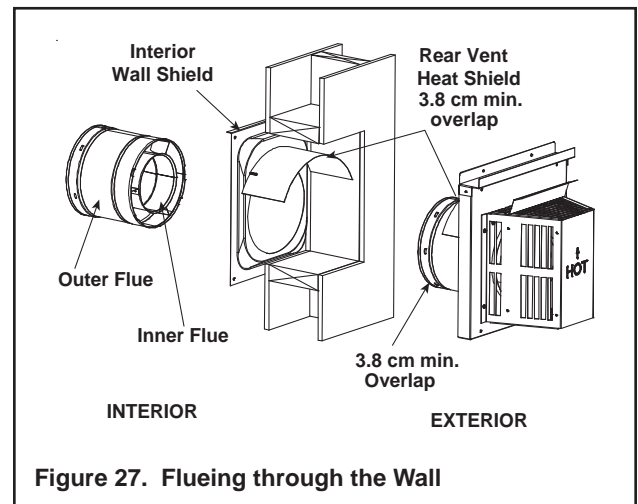

Figure 27. Flueing through the Wall
- The small leg in the shield rests on top of the flue to properly space it from the pipe section (see Figure 27).